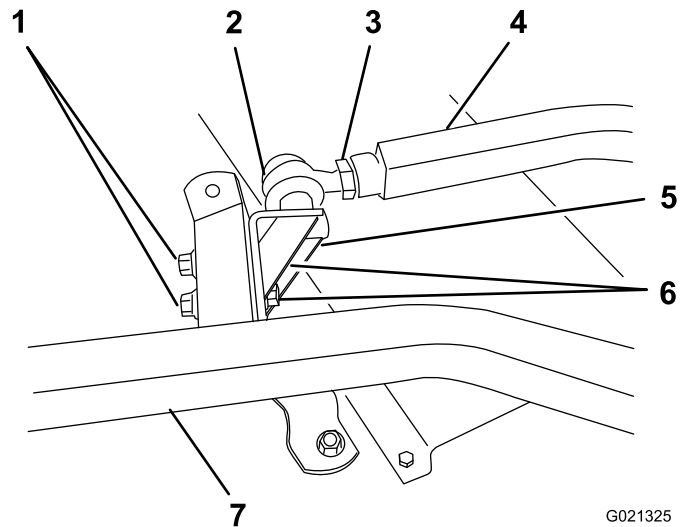

Figure 23
- 6. Have another person push down on the left push arm while you remove the capscrews, flat washers, and locknuts securing the ball joint mount to the castor arm on the cutting unit (Figure 23). Now the helper can carefully allow the push arm to move upward, which will gradually release the 68 kg (150 lb) of spring load
5. Have another person carefully push down on the left push arm until the holes in the ball joint mount line up with the holes in the castor arm (Figure 23). Immediately slide a 4 x 4 inch block of wood between the top of the push arm and the underside of the chassis.